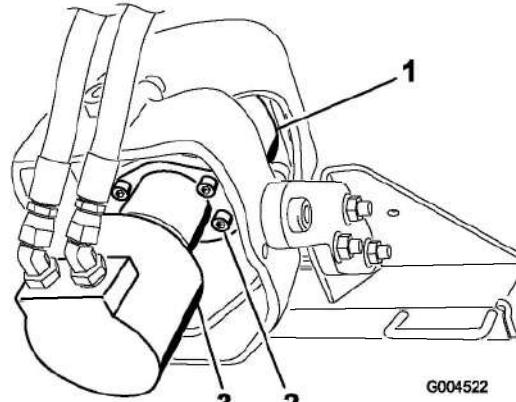

Figure 13
1. Support the drive head over an oil pan (Figure 13).